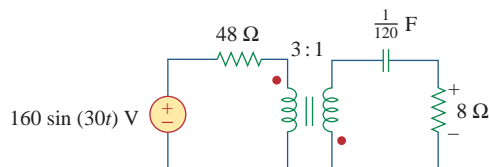

Figure 13.110
13.45 For the circuit shown in Fig. 13.110, find the value of the average power absorbed by the $8\text{-}\Omega$ resistor.